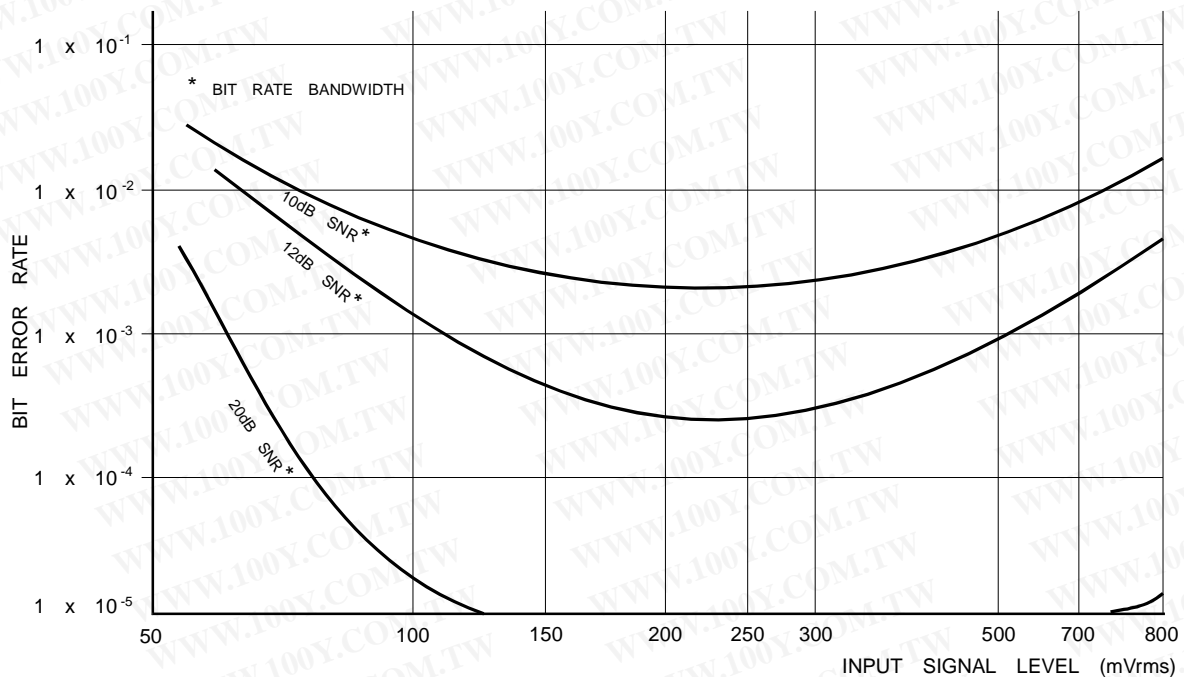

Figure 6 Typical Variation of Bit Error Rate with Input Level
3. See Figure 6 (Typical Variation of BER with Input Signal Level).